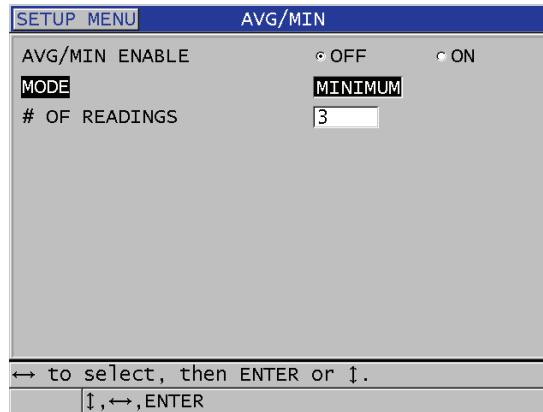

Figure 10-16 Opening the Avg/Min measure dialog box
3. In **AVG/MIN** screen (see Figure 10-16 on page 152):